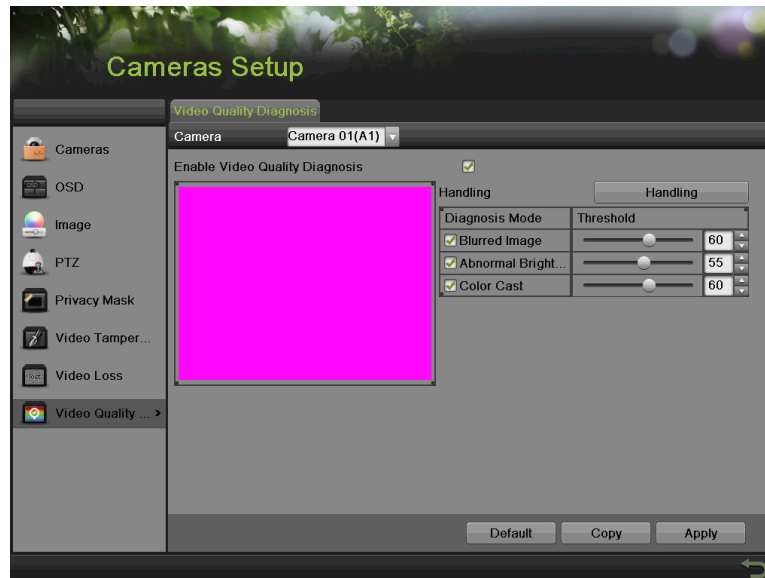

Figure 130 Video Quality Diagnosis Menu
1. Enter the Video Quality Diagnosis menu, shown in Figure 130 by going to Menu > Cameras Setup > Video Quality Diagnosis.